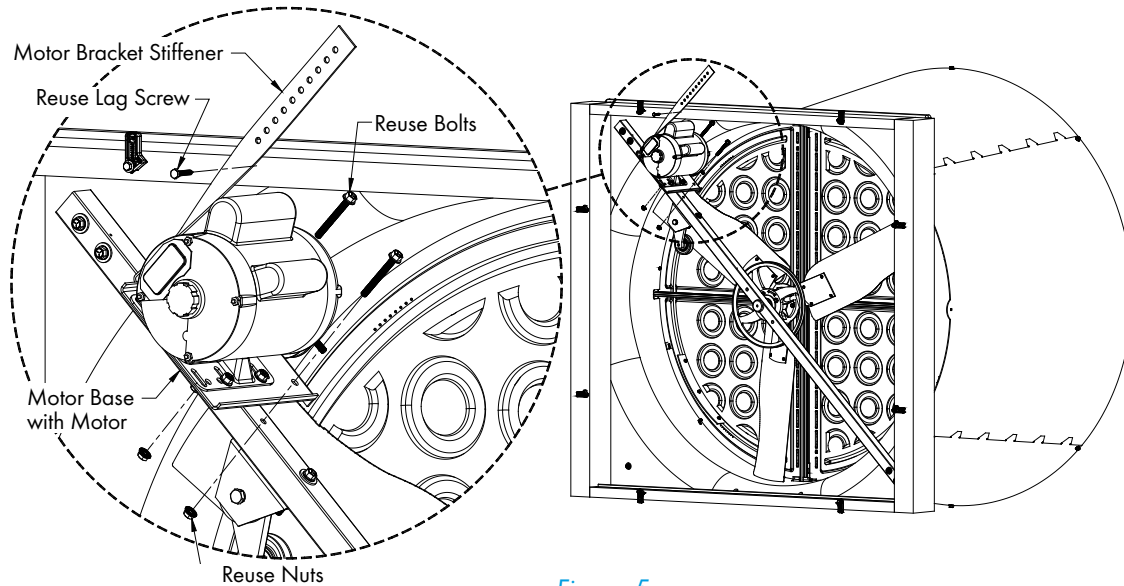

Figure 5
Reattach Motor Base with Motor to Strut using the (2) Bolts and Nuts removed in Step 3. The lower bolt should go through the Motor Base, Strut and Tensioner Bracket. Once Motor Base with Motor is secured, reattach Motor Bracket Stiffener to framing using Lag Screw removed in Step 3. See Figure 5.